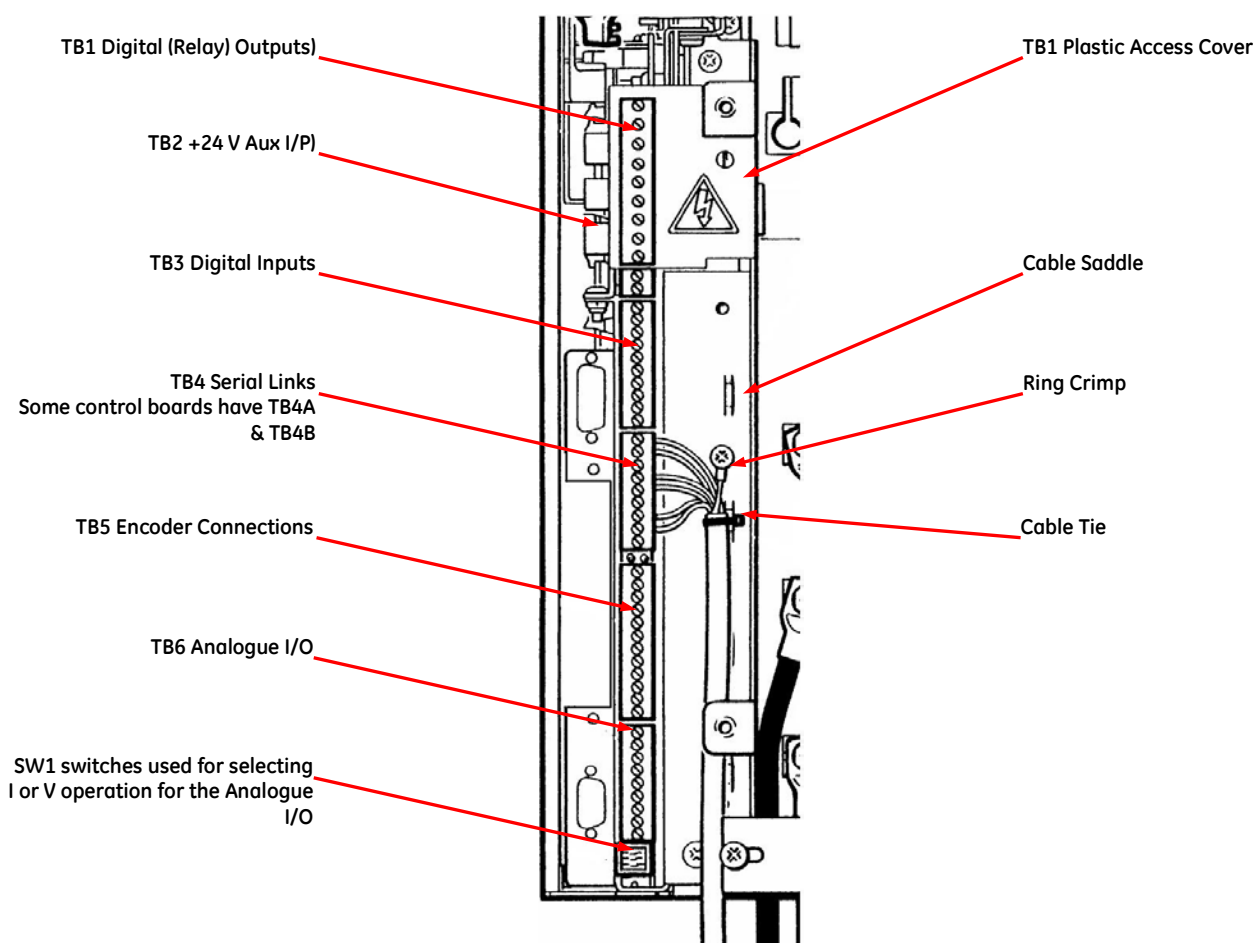

Figure 3-8. – Control Connections
- Referring to Figure 1-1 and to Figure 3-8, connect the control cables as required.. Multicore screened cables should always be used, except for TB1, TB2 and TB3, where screened cable is not mandatory.